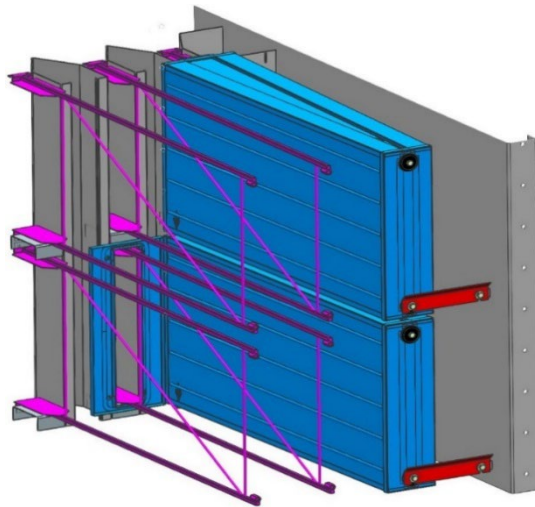

Figure 54: Retainer final position (view 1)
3. Figures 54 & 55 show the correct final position of the retainer.